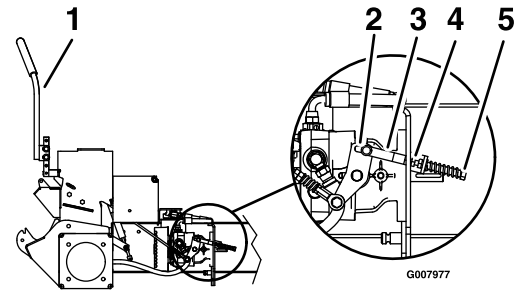

Figure 18
3. Begin with either the left or right motion control lever. Move lever to the neutral position and pull lever back until the clevis pin (on arm below pivot shaft) contacts the end of the slot (just beginning to put pressure on spring), (see Figure 18).